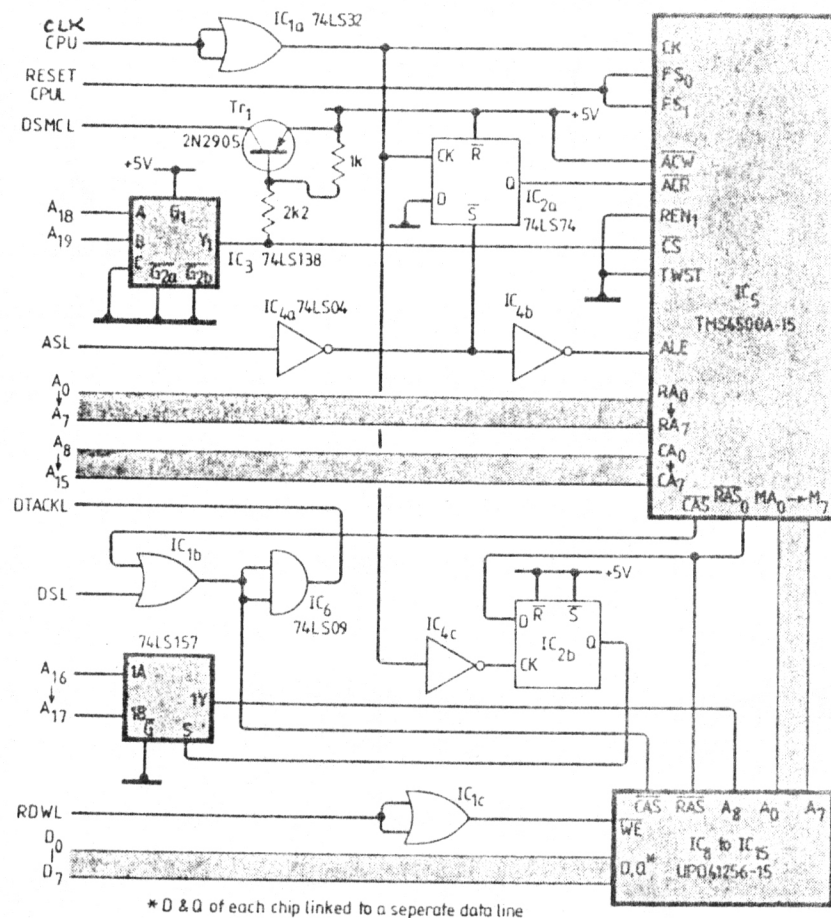

Fig.9: QL memory expansion to 256K. Bypass the memory chips and the TMS4500 to GND by 0.1 μ F ceramic caps. Q1's bus pinout shown on Fig.8.
11) QL MEMORY EXPANSIONS: Fig.8 and Fig.9 show memory expansions for the QL. In Fig.8 memory expansion to 64K or 128K is shown using the 4164 chips. Fig.9 shows the memory expansion to 256K using the 41256 chips. Both circuits utilize the TI TMS4500 memory controller. I saw the TMS4500 in a recent flyer from JAMECO for \$19.95. (Source: British)